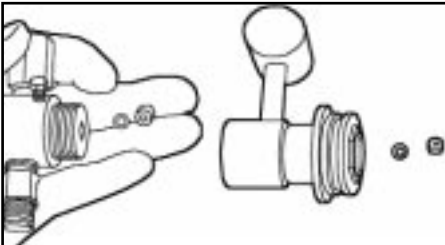

Figure 29
5. Remove the seals from the fluid cylinder and oil chamber. (Fig.29)